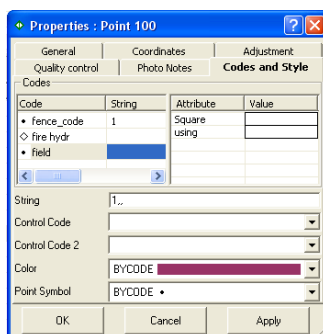

**Figure 5-70. Add Code to Point**
2. Using the *General* tab, select a code and a layer (Figure 5-70 on page 5-52). The plotting style for this code will be taken from the layer parameters.
4. To add a code to the point, right-click in the left panel and click **New Code**. Select the code from the drop-down list and click outside the cell or press **Enter** (Figure 5-70 on page 5-52). More than one code can be added to the point; codes will display in the *Points* tab.